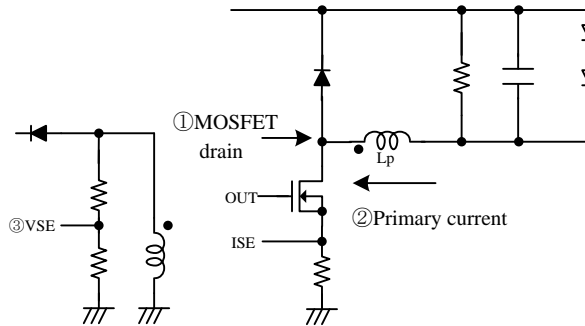

Figure 6.4 Circuit diagram
Figure 6.4 shows FET Drain voltage, primary current and secondary current waveform during FET on and off. VSE signal is resistance-divided voltage of auxiliary winding output. Drain voltage waveform of FET and VSE waveform are same polarity and similar. As LED current (output current) is the average of secondary current, it is shown by equation (6).